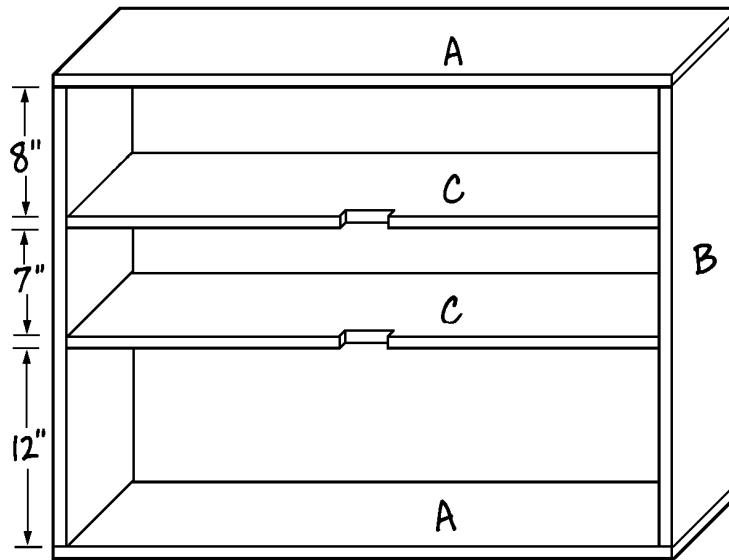

Figure 1
1. Cut four 37-1/2"-long top/bottom pieces (A) from 1 x 6 pine.
2. Cut four 28-1/2"-long side pieces (B) from 1 x 6 pine.
3. Place two of the top/bottom pieces (A) on a level surface, on edge, parallel to each other, and 28-1/2" apart. Fit two of the side pieces (B) between the ends of the top/bottom pieces (A), as shown in *Figure 1*. Glue the pieces together and insert three 1-1/4" screws through the top/bottom pieces (A) into the ends of the sides (B) at each joint.
6. Use 1-1/4" screws and glue to attach two of the shelves (C) inside the assembly, spacing shelves as desired. *Figure 1* shows the spacing that I chose for mine.
7. Repeat Steps 3 through 6 to construct a second cabinet frame using the remaining two top/bottom pieces (A), two sides (B), and two shelves (C).